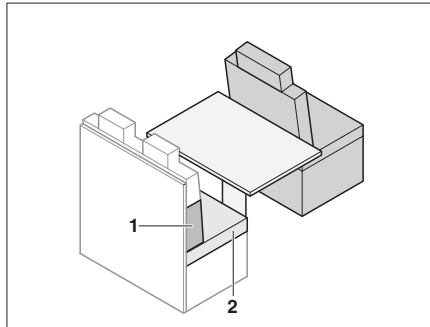

Fig. 192 Prior to conversion
- Remove the seat cushion (Fig. 192,2).